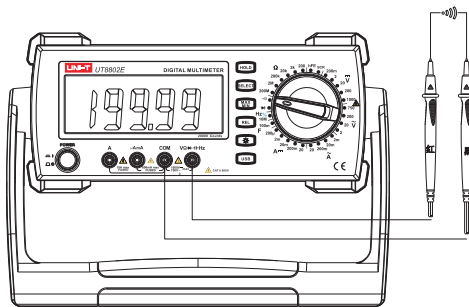

Figure 7
7. Measurement of Continuity (see Figure 7)